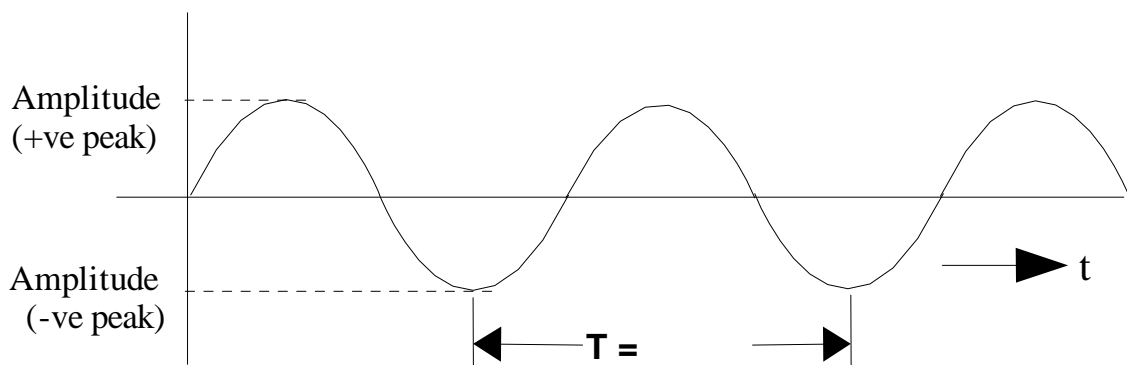

Fig. 2 Output waveform
3. Write down the amplitudes and T period of the output wave in the fig.2